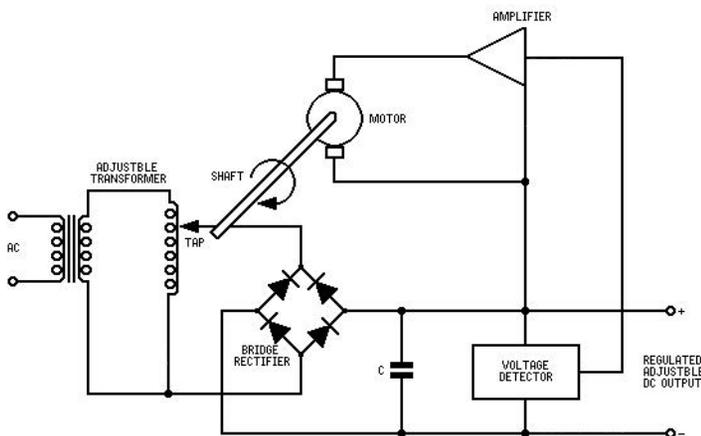

Fig.8. Superior regulation is obtained by using feedback - as demonstrated by this electromechanical form of regulator.
If the actual load voltage is compared with a constant reference-voltage source, it is possible to determine if the output is greater or smaller than required and by how much. Having made such a comparison, the difference, called the error signal, can be used to modify the incoming signal accordingly. This is the principle of feedback. Figure 8 shows how feedback is used in the electro-mechanical type of supply regulator. These regulators are used where loads are high and the unwanted changes occur only relatively slowly. In operation the output of a basic rectifier is smoothed by a capacitor (C) to provide the required output voltage. The output voltage is compared with a reference voltage and
Thus, by using feedback, changes in output voltage are rapidly sensed and the input quickly compensated. The feedback amplifier and control actuator (the motor in Fig. 8) need not be precision devices - they can be quite crude in fact - but the reference voltage must have better stability and accuracy than is required from the output.